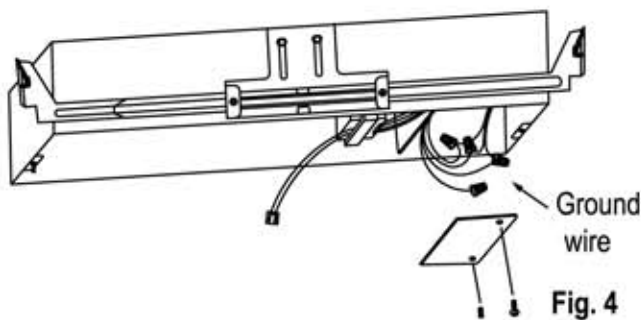
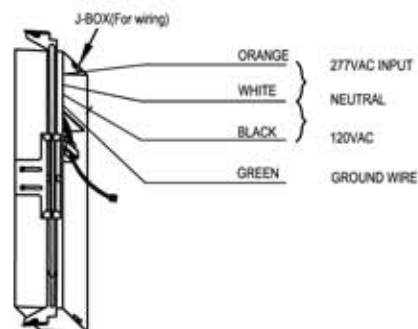

Fig. 4
Fig. 5
4. Make proper electrical connections at J-Box in the Metal Box or at junction box in the ceiling of the building. (Fig.4) If using 120VAC, connect the black and white leads to the building utility. If using 277VAC, connect the orange and white leads to the building utility. Cap off unused wire. In all cases, use standard wire nuts in connection to leads. (See Fig.5)